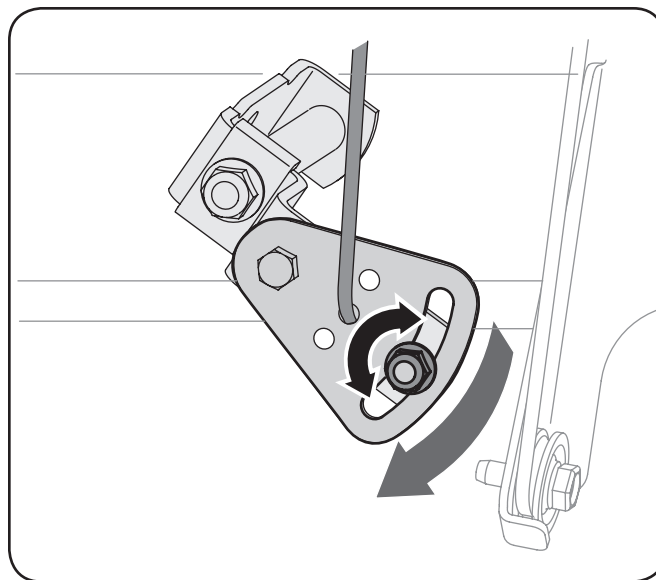

Figure 6-4
2. Loosen the hex nut on the shift cable index bracket. See Fig. 6-4.